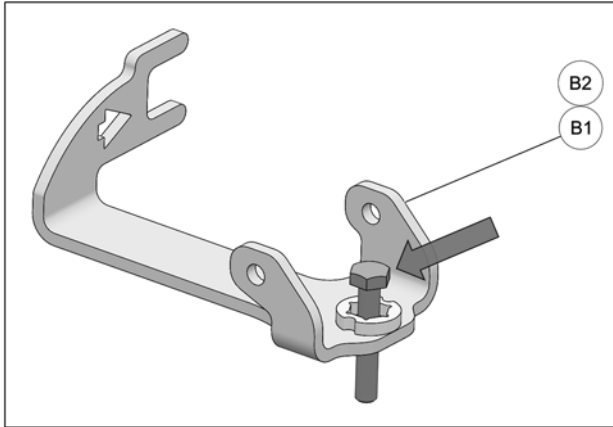

Fig. 4
4. Insert bolts in rear anchor bracket (**B1-B2**) as shown in Fig. 4